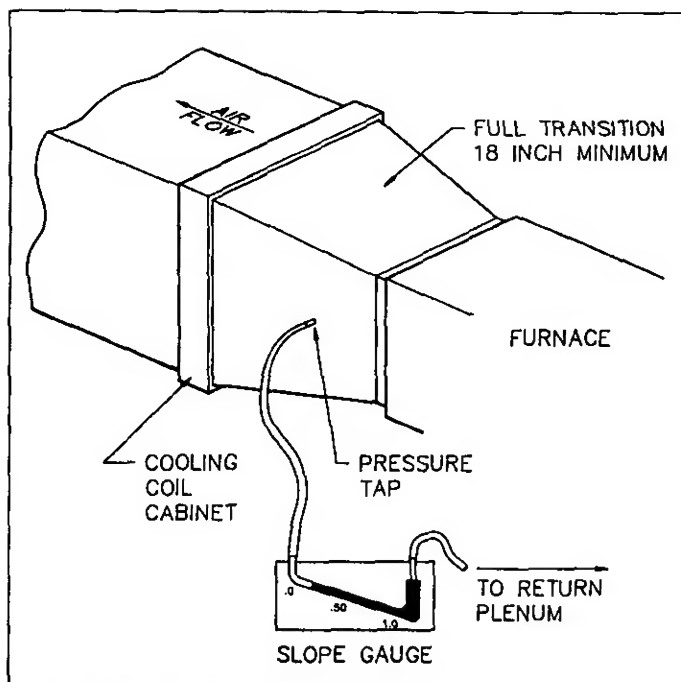

FIGURE 39
2. Insert one static pressure tap into supply air transition duct between furnace and cooling coil or in the supply air plenum for heating only systems. Insert other static pressure tap in return air plenum. See Figure 39.
3. Connect pressure tap attached to supply air transition duct (warm air supply plenum) to positive pressure side of slope gauge (bottom of scale). See Figure 39.
4. Connect pressure tap attached to return air plenum to negative pressure side of slope gauge (top of scale). See Figure 39.